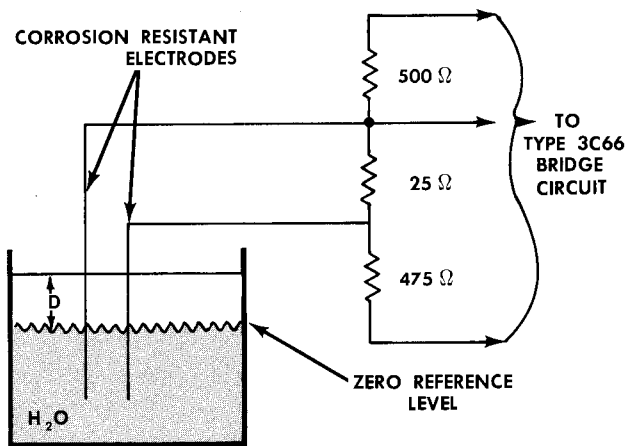

Fig. 3-7. Diagram of simple transducer for measuring water-wave actions in hydraulic model studies.
For example, Fig. 3-7 shows a transducer designed to measure water-wave action in hydraulic models. Two electrodes are inserted into a fluid (tap water in this example) and as the water rises and falls relative to the fixed transducer, the total resistance of the water between the electrodes changes. Even with relatively pure water the change in resistance for moderate depth changes (D) is enough to operate the Type 3C66. To avoid nonlinearity, bridge only a portion of the resistive arm with the water conduction path as shown in Fig. 3-7. Calibration is accomplished by moving the transducer a known amount relative to the water and setting the Type 3C66 gain.